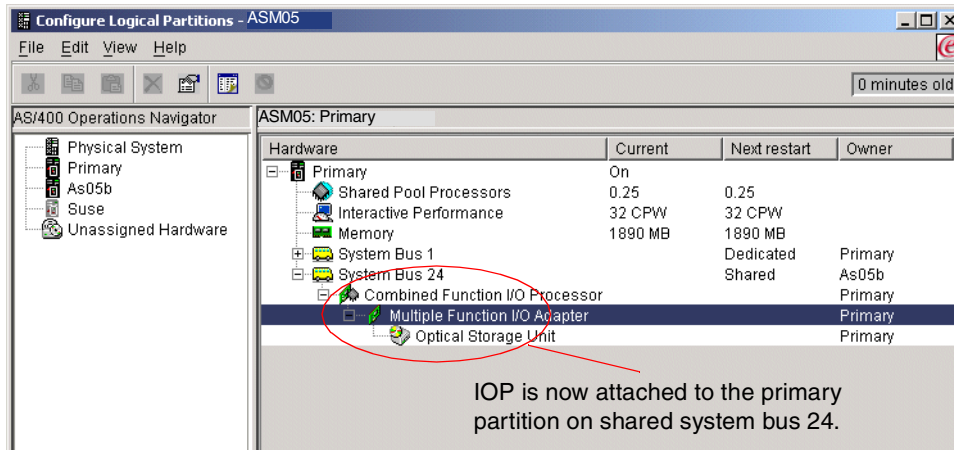

Figure 8-28 Configure Logical Partitions display: IOP move completed
6. In Figure 8-28, you can see that the primary partition now has the IOP on system bus 24 and, below that, the CD-ROM device.